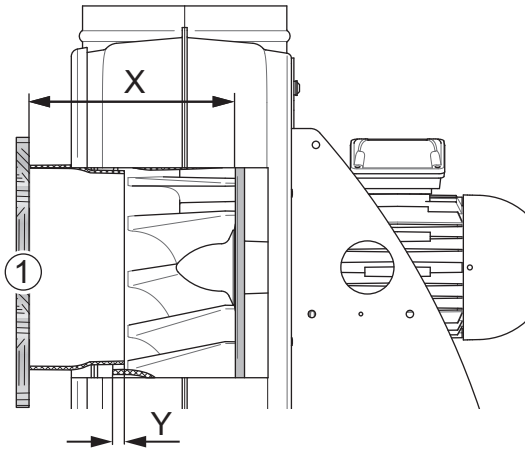

Fig. 39: Measuring impeller position (sectional view)
- Conduct measurement according to figure 39.